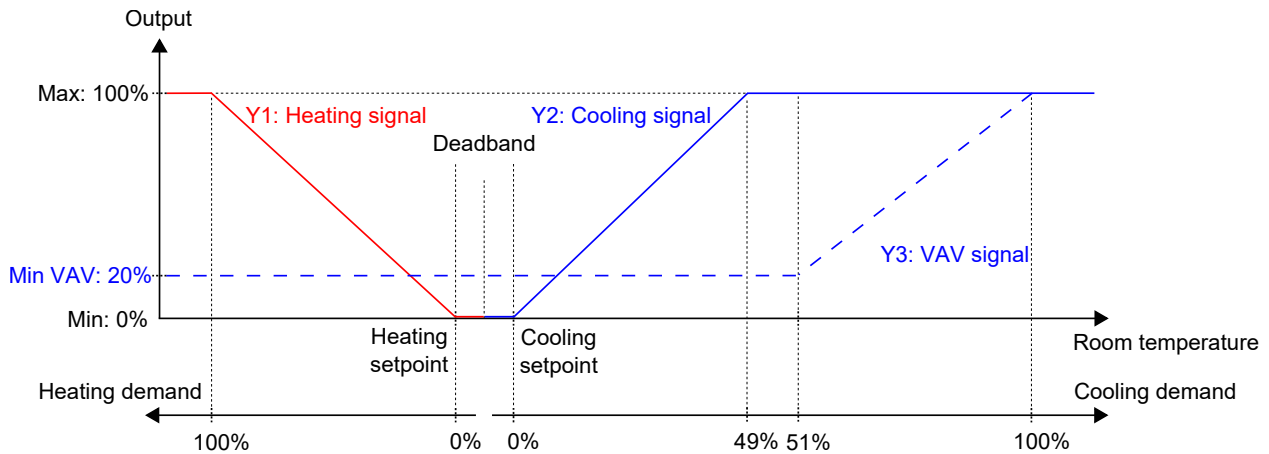

Figure 2-13 Control behaviour for the Heating + Cooling + VAV controller mode when the controller regulates based on heating and cooling demand.
*Figure 2-13* illustrates the control behaviour when the controller regulates based on heating and cooling demand, when no maximum or minimum limits are set for the heating or cooling output signals, and when a minimum limit is set for the VAV output signal.